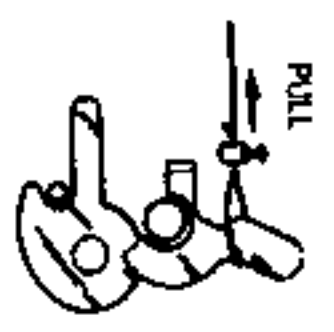

FIG 1
1. With trunk open, turn to unlock and notice action of lock lever. Attach hook to lock arm by filing a notch or drilling a hole on lever (see fig. 1 & 2). Remove levere mechanism from trunk lid if necessary since body structure differs from cars to cars.